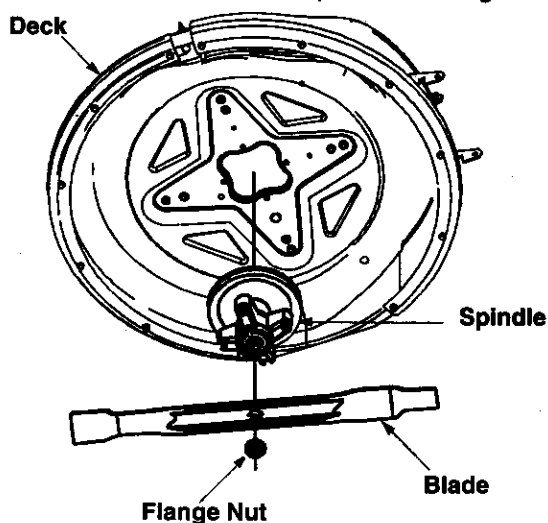

Figure 25
- Remove blade from the spindle. See Figure 25.